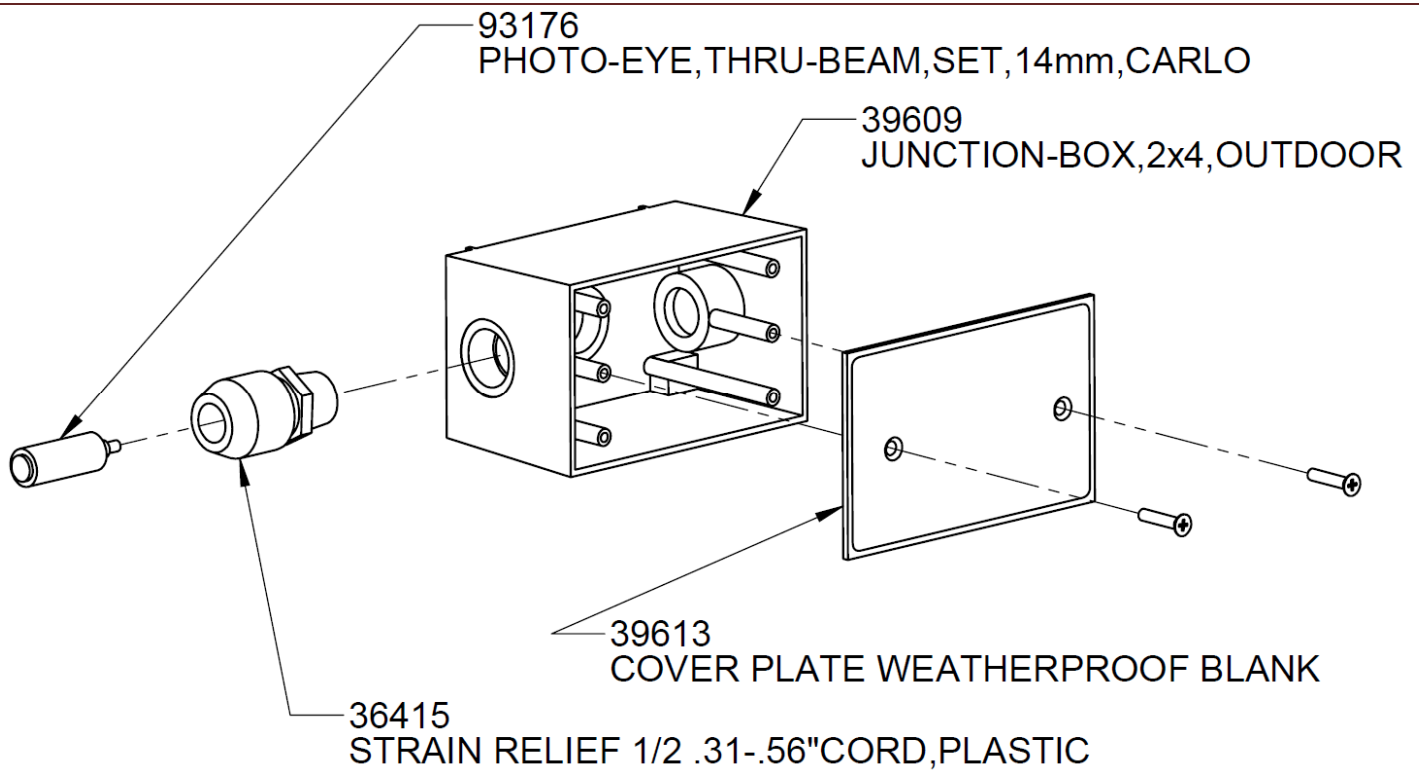

Figure 152 - Door Control Photo-eye Assembly
- Assemble the Photo-eyes and the enclosures as shown in Figure 152. Note which eye is the receiving Photo-eye (black cable) and transmitting Photo-eye (gray cable). Make sure the Photo-eyes point directly at each other.